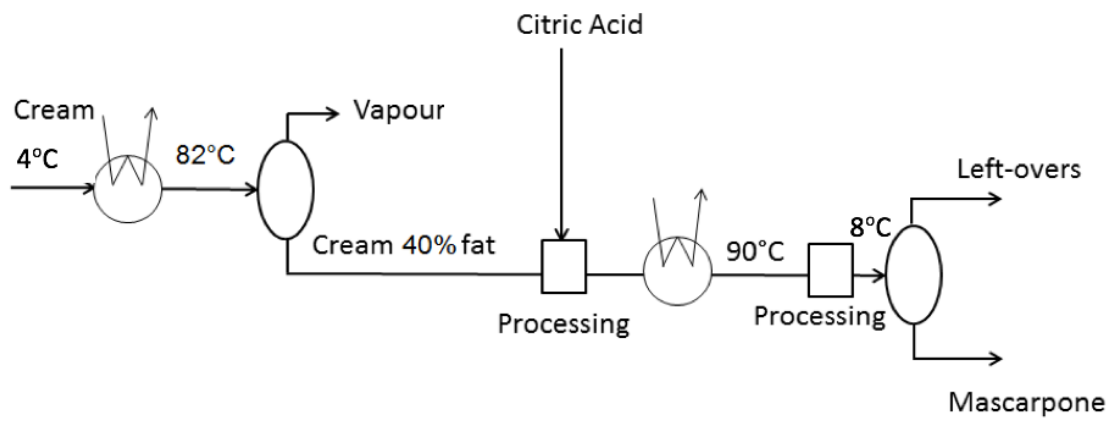

Figure 3: Mascarpone production
- Mascarpone production (Fig. 3)